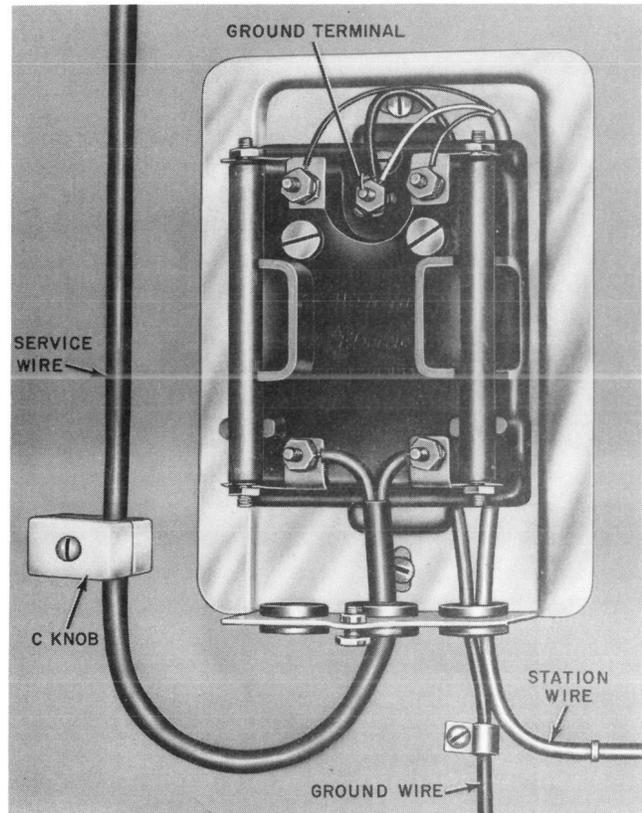
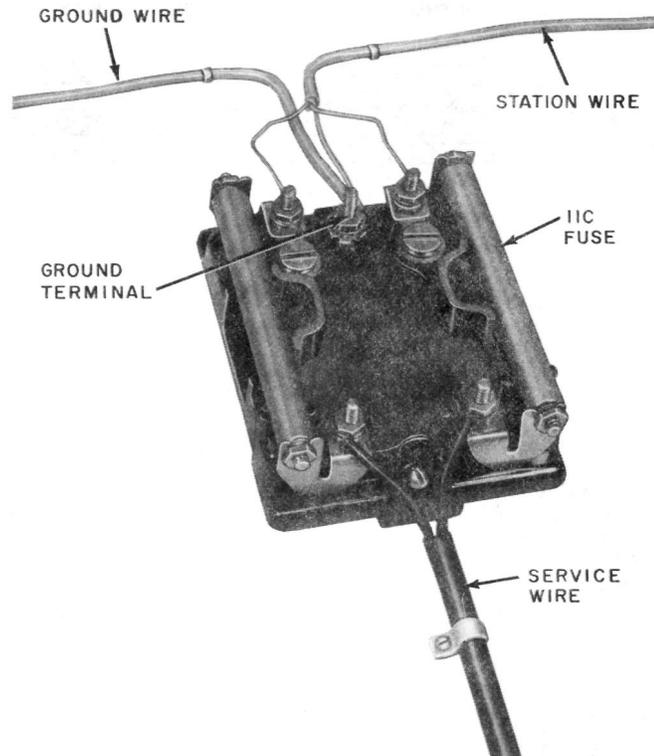
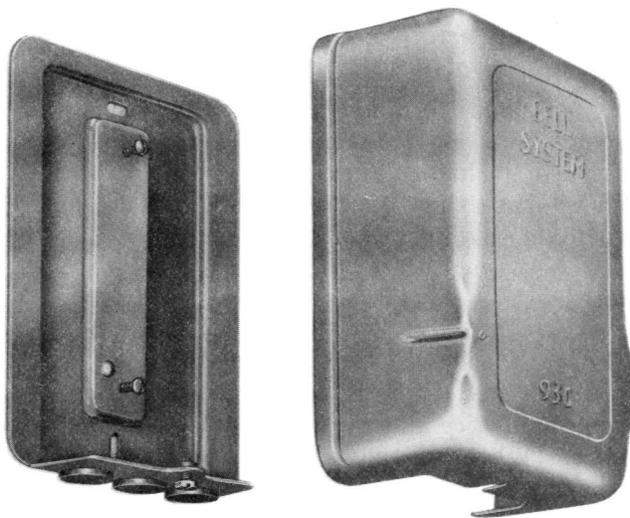

Fig. 39—1293C (MD) Protector, Cover Removed
Fig. 40—106C Protector
Fig. 41—93C (MD) Protector Mounting
5.01 The 1293C (MD) protector (Fig. 39) is used for outdoor installations and the 106C protector (Fig. 40) is used for indoor installations. These protectors are the same except the 1293C (MD) protector is comprised of a 106C protector enclosed in a 93C (MD) protector mounting (Fig. 41).